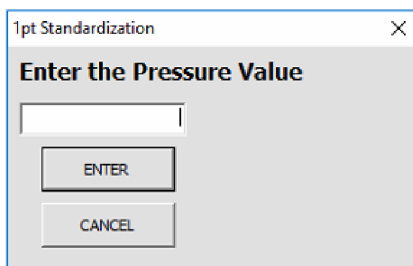

Figure 3.28. 1pt Standardization window.
2. Enter the pressure value from the pressure sensor in the field and click **Enter** (Figure 3.28).